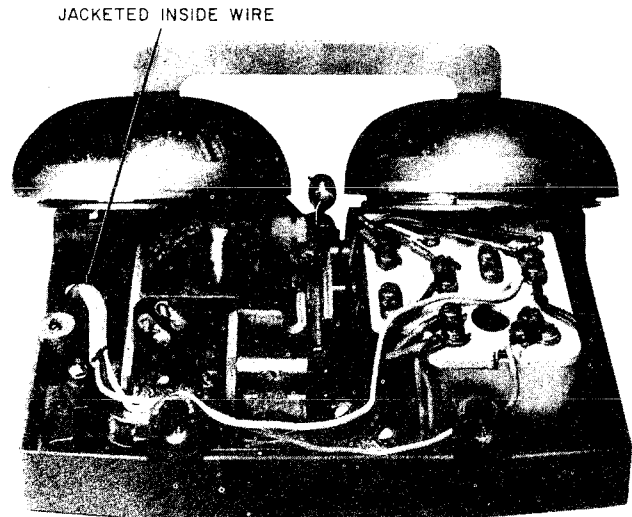

Fig. 5 — F1A Ringer, Top View, Showing Jacketed Inside Wire Entering Through Rear
3.06 Inside wire may enter ringer from back, bottom, or either side (See Fig. 5 and 6.)